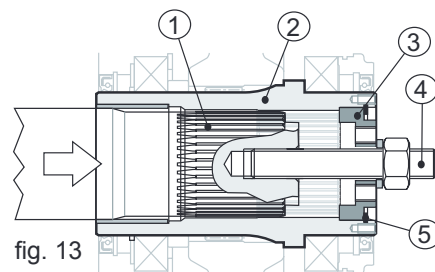

fig. 13
Now insert the backplate (pos. 3) then the inner retaining ring (pos. 5) securing the backplate (pos. 3). Now when you tighten the threaded rod nut, the machine shaft will abut with the backplate (see Fig. 13).